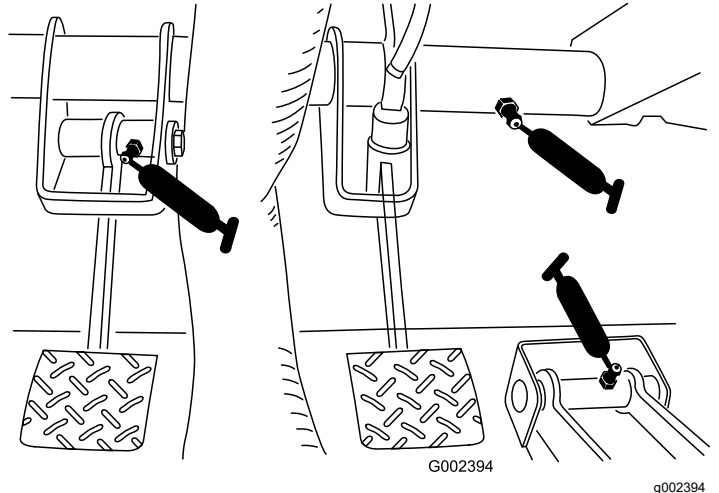

Figure 31
- **Brake (1);** refer to Figure 31
- **Clutch (1);** refer to Figure 31
- **Accelerator (1);** refer to Figure 31